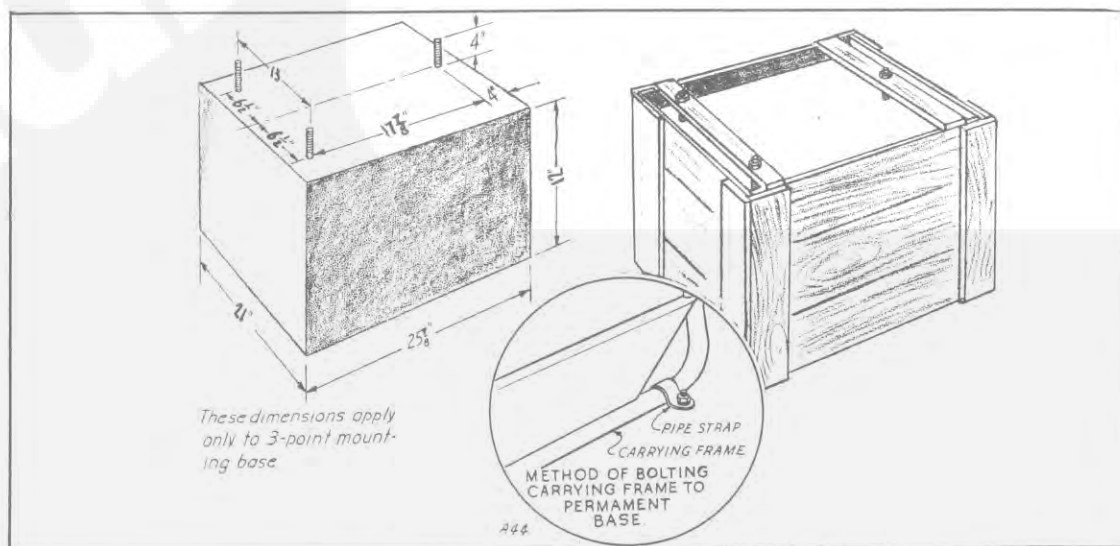

FIG. 5- MOUNTING BASE
**MOUNTING BASE.** - The plant should be mounted on a permanent base of timber or concrete. The base should be at least two inches larger on all sides than the plant base and about 12 inches high. Leave at least 24 inches between the base and the nearest wall. See Fig.5 for dimensions.